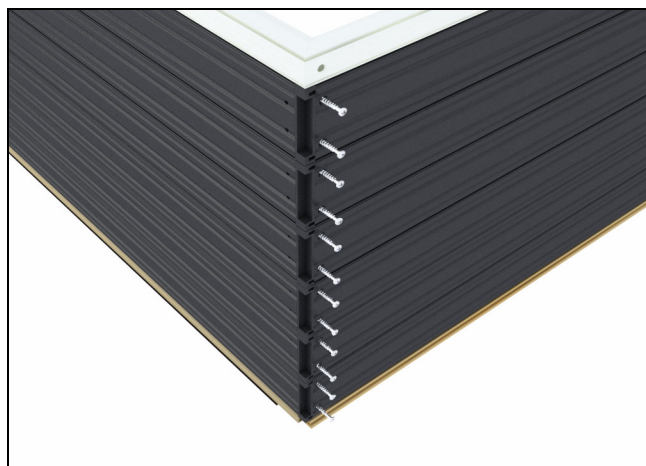

Figure 53
3. Fasten head jamb to side jamb using #8 x 1 1/4" pan head screws. See figure 53. *Note: If unit is prepped for motorization, use two #8 x 3/8" pan head screws on interior track.*